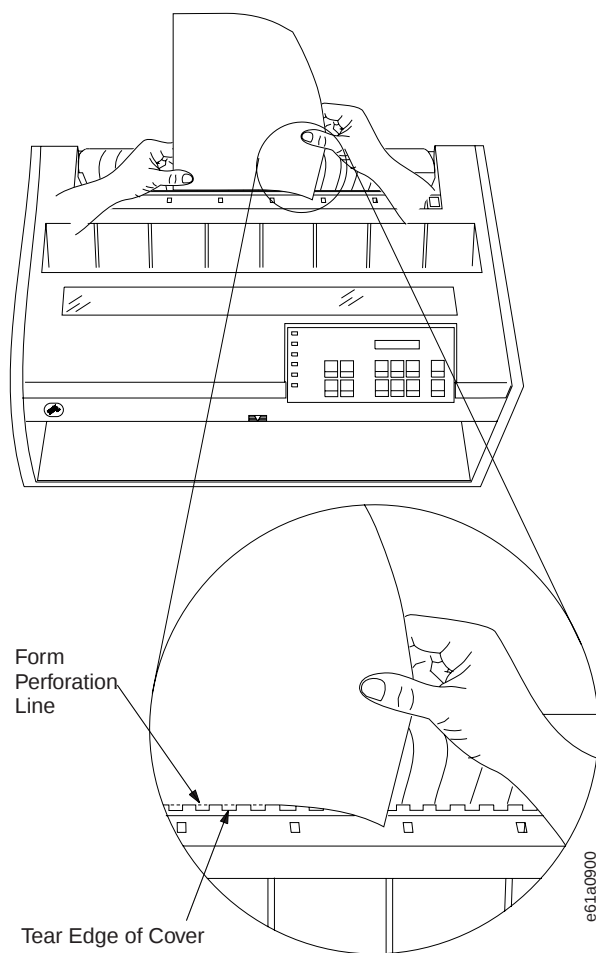

Figure 23. Tear-Off Position. Only the earlier models had a serrated tear edge, as shown.
10. Figure 23 on page 220 shows the correct position of the perforation for a clean tear-off.